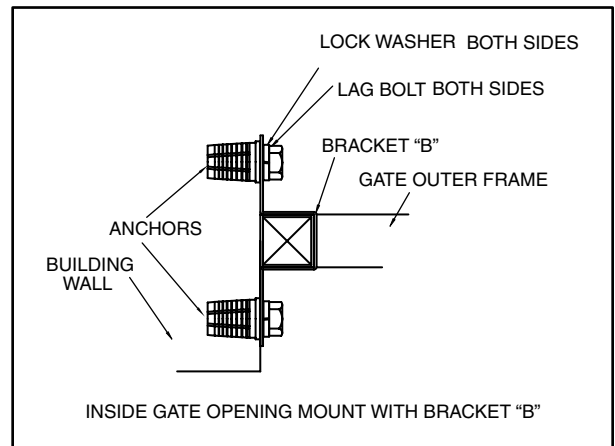

FIGURE B4
d. OPTIONAL MOUNTING OPTION Inside gate opening with Bracket "B"-See Figure B4